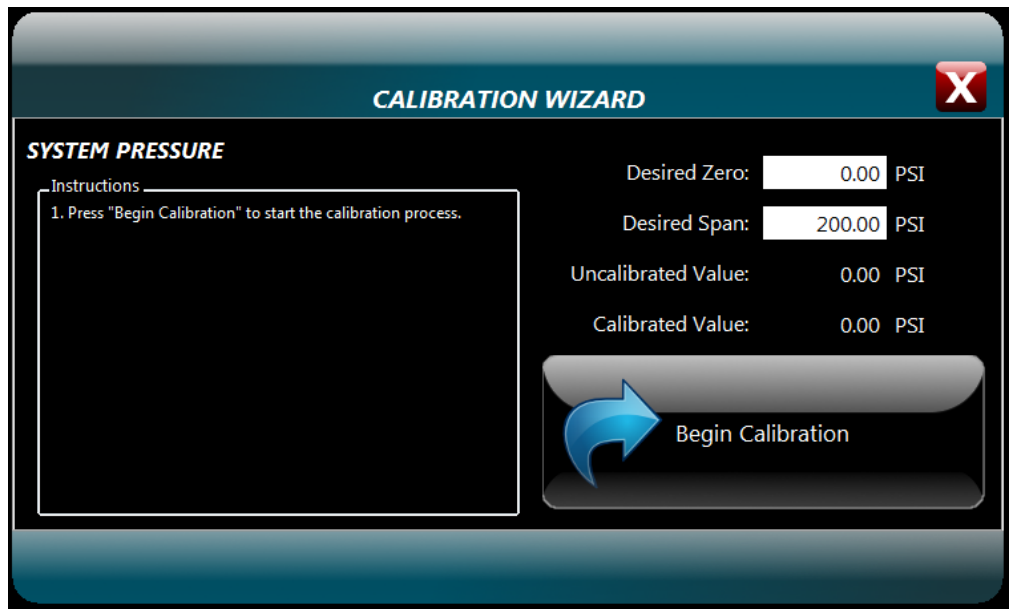

Figure 81 – Pressure Calibration Wizard display with Begin button
1. Press the 'Begin Calibration' to start the calibration process (figure 81).